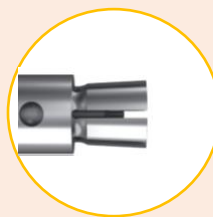

Figure 7a
- Rotate the knob clockwise completely to fully open the collet of the Modular Screw Driver. (Figure 7a)